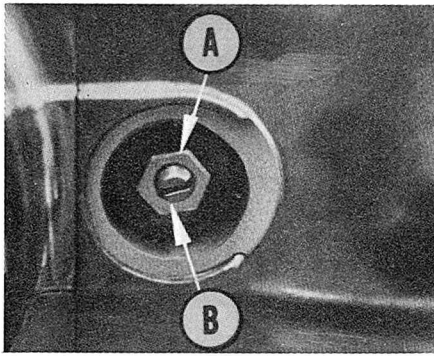
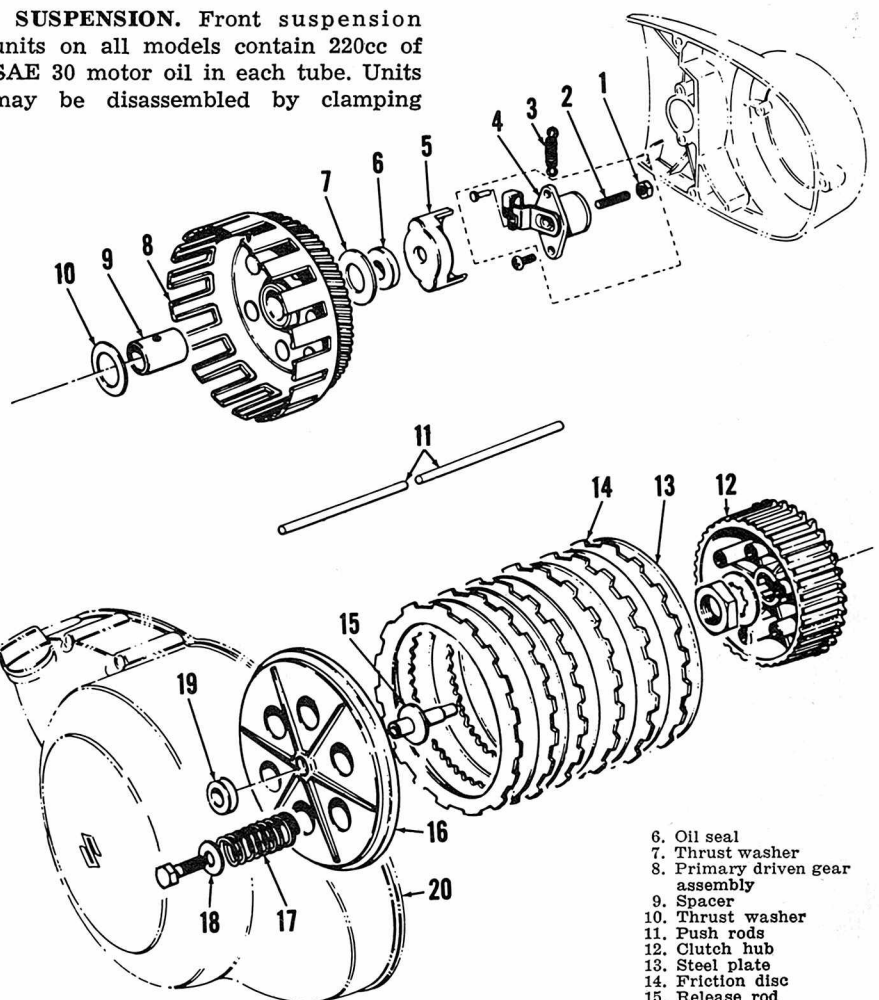

Fig. S6-7—Back screw (B) out  $\frac{1}{2}$  turn after it seats lightly and tighten lock nut (A). Adjust clutch control cable for proper free play.
Fig. S6-11 — Exploded view of typical clutch assembly.
is slack. Remove rubber plug on left side of engine and loosen lock nut (A—Fig. S6-7). Turn adjusting screw (B) until it just contacts push rod (11—Fig. S6-11) and back it out  $\frac{1}{4}$ – $\frac{1}{2}$  turn from that position. Tighten lock nut and adjust clutch cable adjuster to obtain  $\frac{1}{8}$  inch free play in clutch lever at pivot.
**CLUTCH.** The clutch is a multi-plate wet type unit mounted on right side of engine. Standard thickness of friction disc (14—Fig. S6-11) is 0.138 inch. Disc should be renewed if worn to less than 0.126 inch thick. Standard length of clutch springs (17) is 1.51 inch. Springs should be renewed if less than 90% of original length.